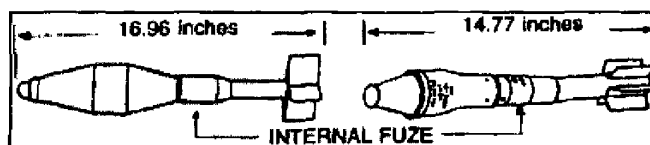

Figure 093-401-5040-8b.
- (3) Thrown (figures 093-401-5040-9a through 093-401-5040-9b):